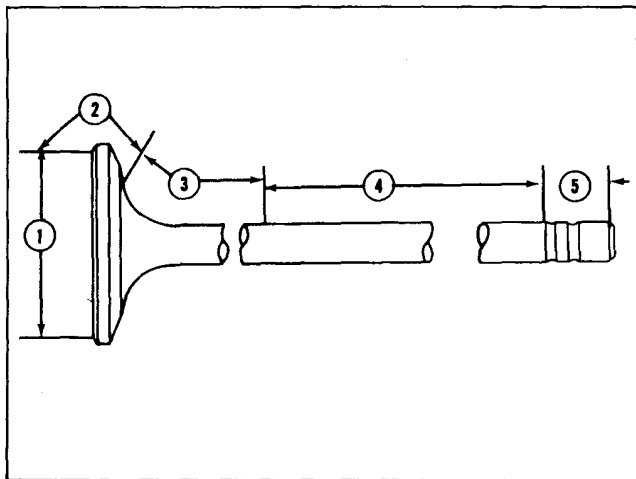

Fig. 2-12, (N10269). Magnetic indications of Magnaglo
4. Magnetic indications should be as follows: Reference Fig. 2-12.
- a. No magnetic indication over 1/2 inch [12.70 mm] in length or more than 5 indications spaced closer than 1/8 inch [3.18 mm] can be accepted in area (1).
- b. No visible or magnetic indication acceptable in area (2).
- c. No visible or circumferential magnetic indications are acceptable in areas (3) and (4).
- d. No visible or magnetic indication is acceptable in area (5).